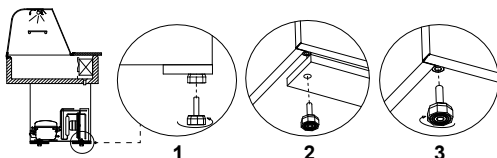

Fig.5 Removing the wooden platform
- Unpack the device and remove the wooden platform from the basis (does not concern moving devices as well as N, N2 and Z models) Fig.5